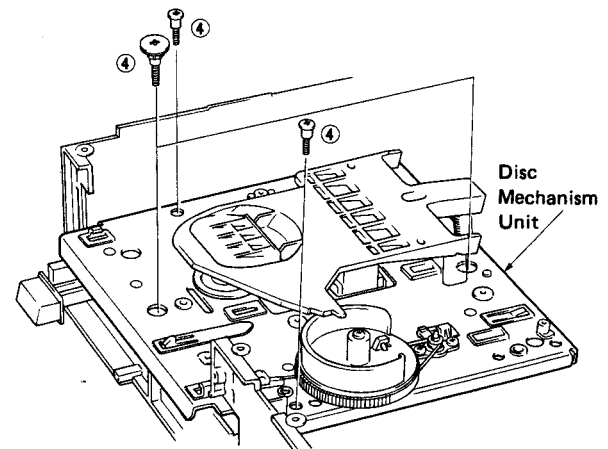

Fig. 4
- a. Remove 4 screws (④) in Fig. 4.